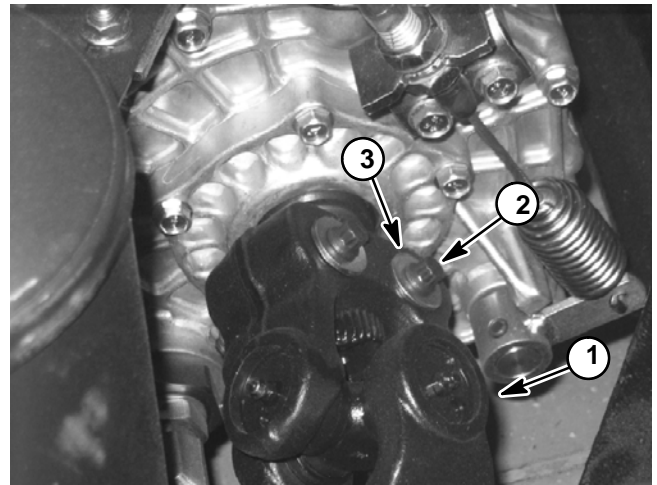

Figure 8
3. Loosen and remove flange nuts, cap screws and hardened washers that secure driveshaft to transaxle shaft (Fig. 8).
5. If necessary, loosen and remove flange nut (item 5) that secures splined shaft (item 7) to driveshaft. Remove splined shaft from driveshaft.
1. If removed, attach splined shaft (item 7) to driveshaft:
- C. Install flange nut (item 5) onto splined shaft and tighten.
2. Secure driveshaft to transaxle shaft (Fig. 8):